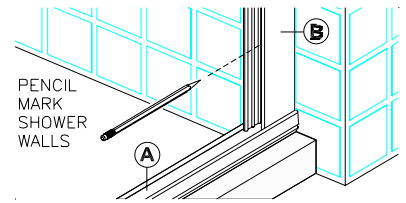
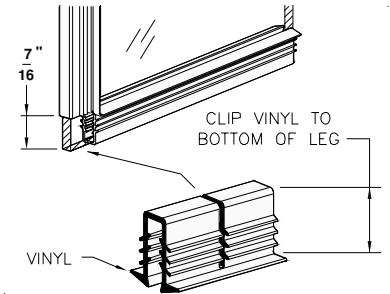

figure 2
figure 3
3. Place Wall Jamb (B) on to ends of Sill (A) and up against shower walls as shown in figure 2. Plumb the Jamb, then pencil mark their installation holes locations on the shower walls (3 per jamb). Remove Wall Jamb. Using a 3/16" masonry bit, drill 1-1/4" deep installation holes in locations previously marked. Insert Plastic Screw Anchors (I) into holes.
4. Reposition Wall Jamb (B) as before and secure Jamb to walls using the six(6) 1-1/2" Installation Screws (H) provided (3 per jamb).
5. Decide from which side your Door Assembly (D) is to hinge (left or right, your choice). Install Glazing Vinyl (d7) onto hinge side of glass as shown in the exploded view. Begin glazing at top of glass edge and work down. Clip the vinyl 7/16" from bottom edge of glass (see figure 3) and continue glazing bottom edge of glass as shown.